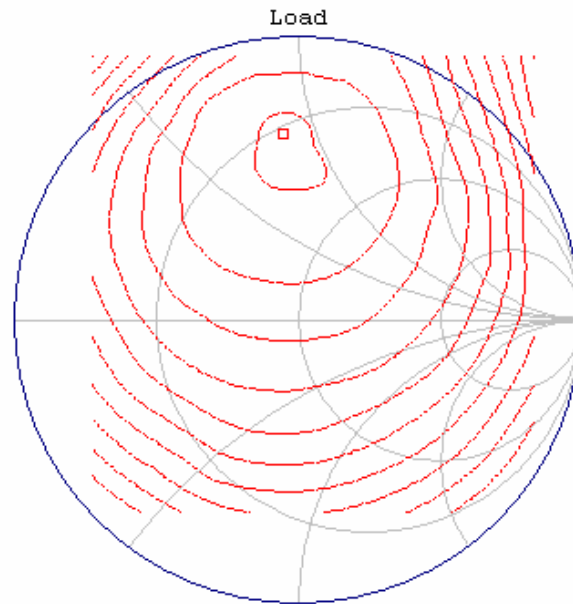

Figure 35. Load pull contour plot for R1=56ohm
2. S and noise parameters are measured on PCB. The PCB material is 10 mils Roger RO4350. Figure 35 shows the input and output reference plane.
1. S-parameters are measured on PCB. The PCB material is 10 mils Roger RO4350. Figure 35 shows the input and output reference plane.